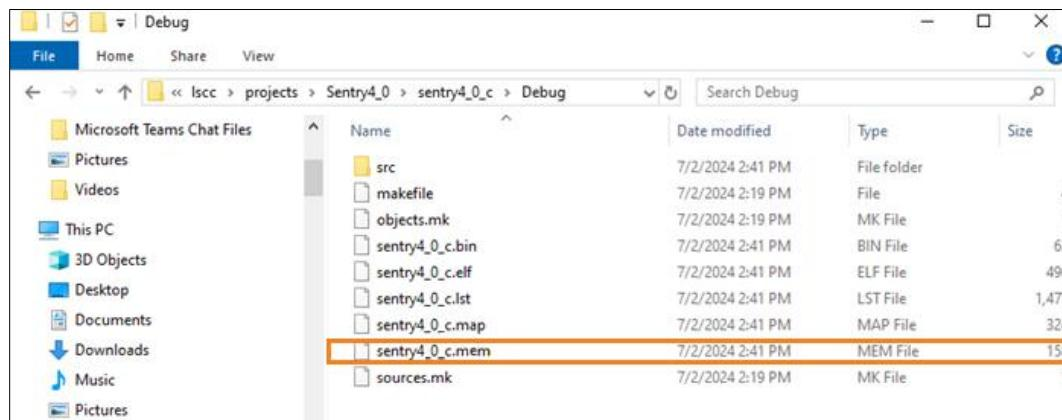

Figure 4.20. Location of the Firmware .mem File
9. The .mem file generated when the project is built is in the following directory (Figure 4.20):
11. The .mem file generated when the project is built is located in the following directory (Figure 4.20):